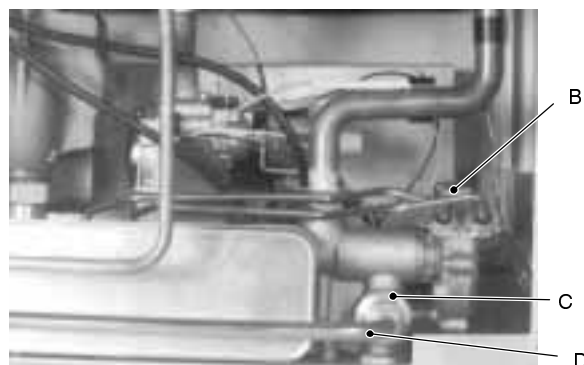

fig. 71 (rear view of the boiler)
- 3 Remove the hydraulic actuator B (fig. 71) as explained in the section *Diverter valve and d.h.w. pressure switch* of this manual.